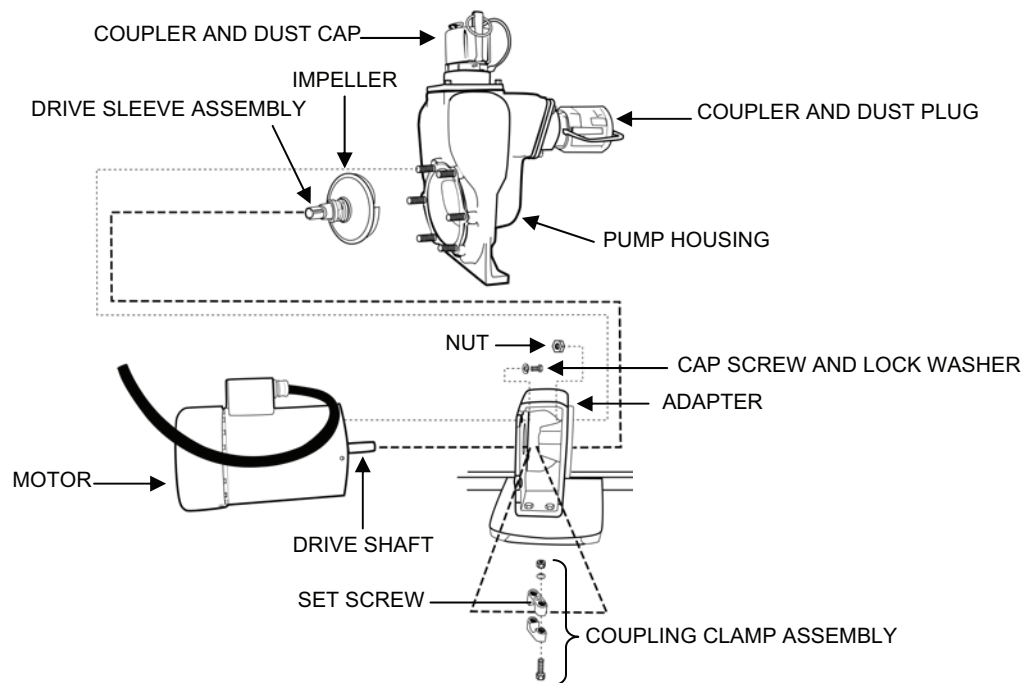
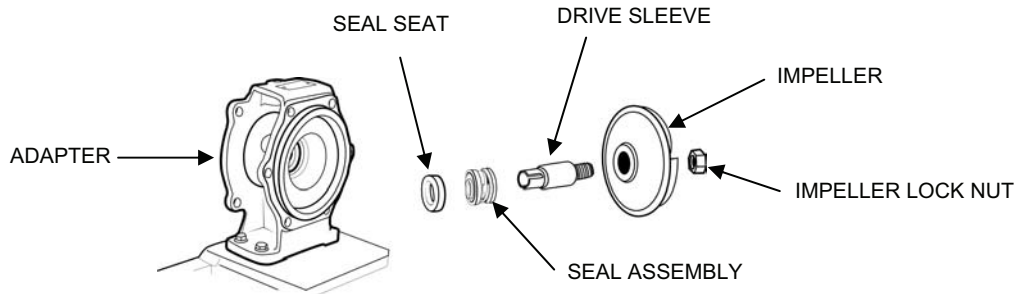

Figure 9. Pump P-2 Electric Motor Replacement.
Figure 10. Drive Sleeve, Impeller, and Seal Assembly.
Replace the P-2 Pump electric motor as follows (see Figure 9 and Figure 10):
- f. Remove the lock nut and drive sleeve from the impeller (see Figure 10). Discard the sleeve and seal assembly. Attach the new sleeve to the impeller using the lock nut.